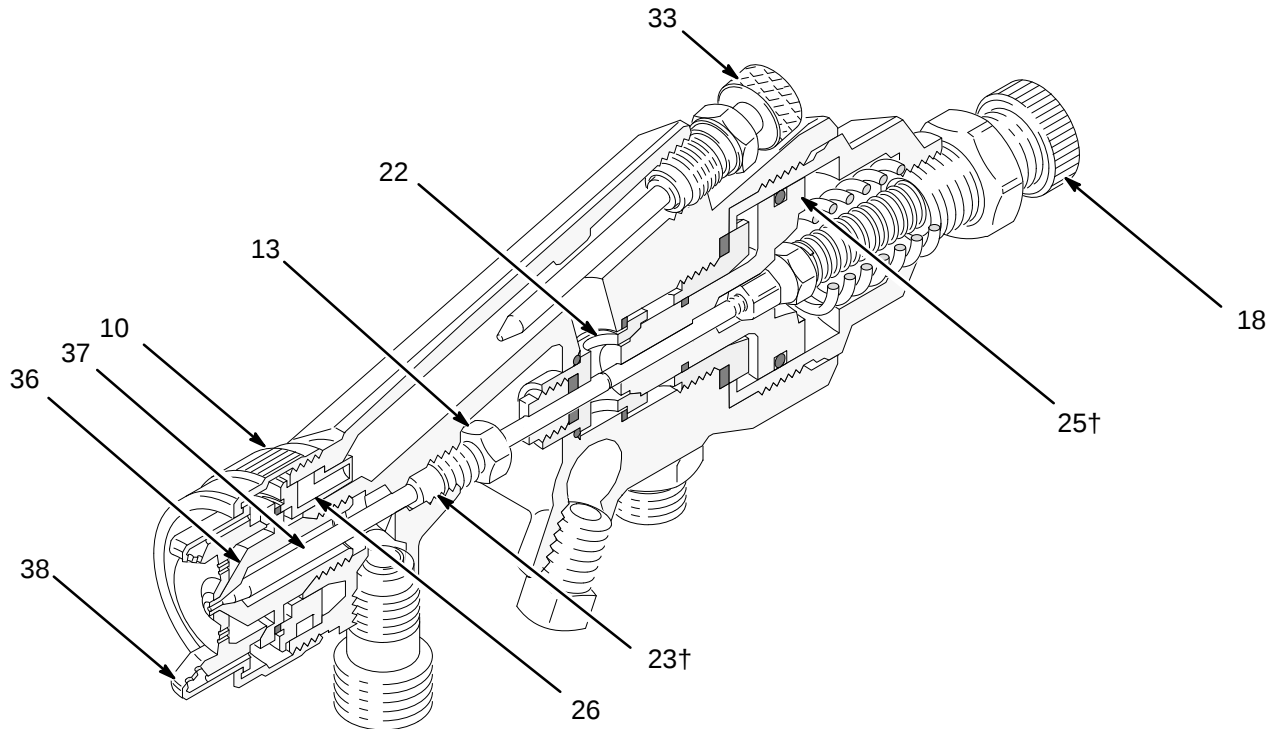

Fig. 2
Install the air cap (38). See Fig. 2.
For maximum flow, leave the fluid adjusting knob (18) in the full open position. See Fig. 2.